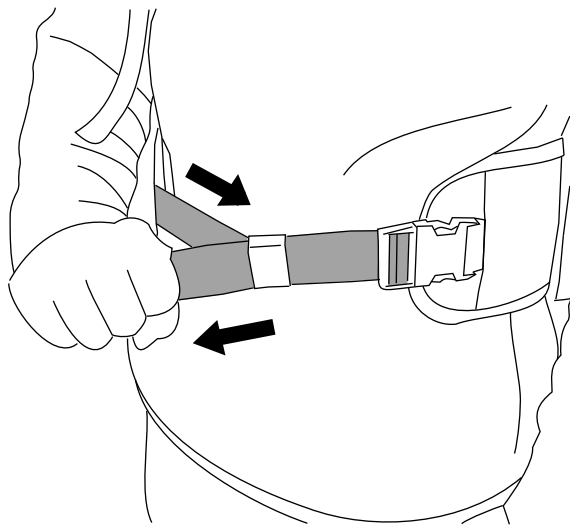

Figure 10
3. Tighten the hip belt again while standing straight to ensure that it is snug (Figure 10).